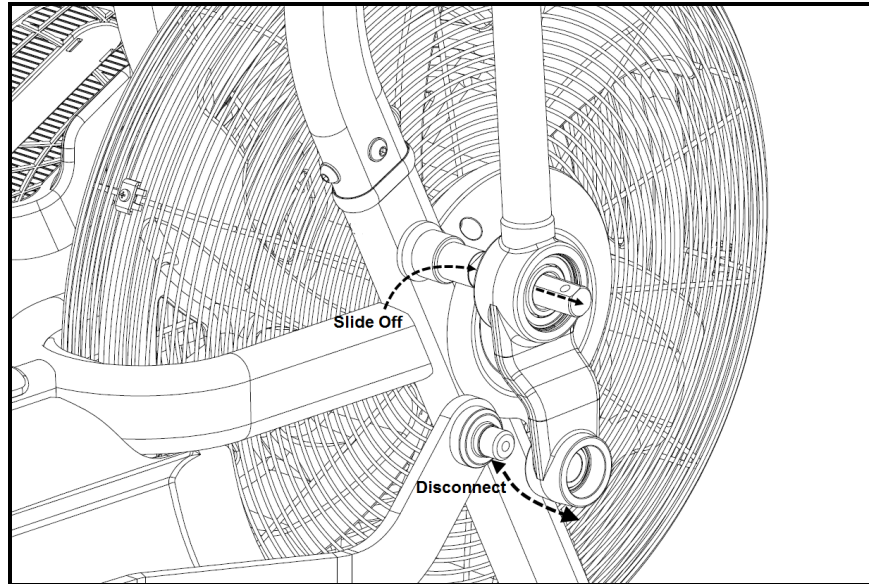

Fig. 6
6. Disconnect the crank link arm from the spherical bearing in the arm and slide the arm off the pivot shaft (Fig. 6).